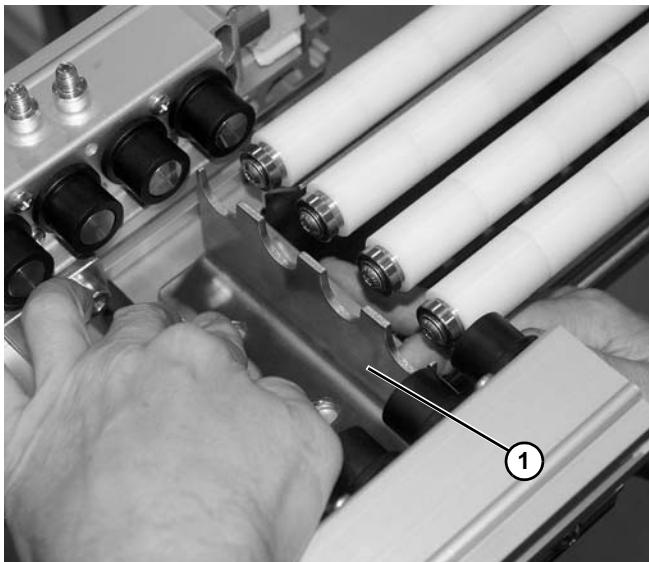

Figure 169
10. Remove roller plate (Figure 169, item 1) from rollers.